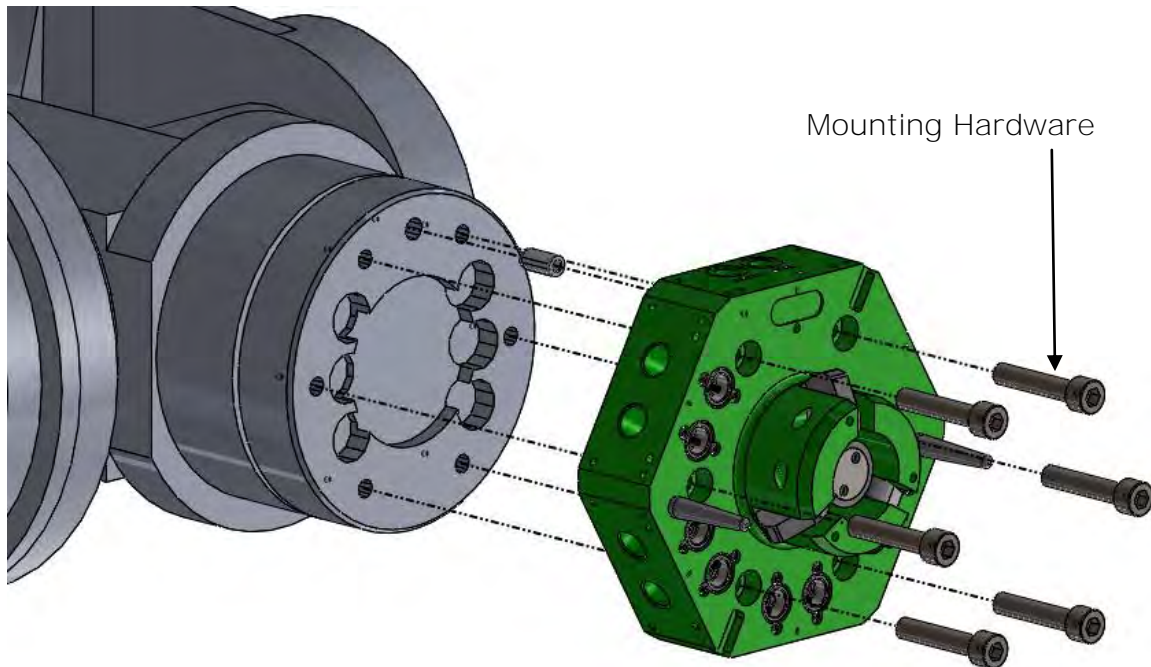

Figure 5.1-1. E125LP Robot Adaptor Installation w/ M10 Hardware
1. Locate the Robot Adaptor to the manipulator mounting flange utilizing the locating boss and one (1) M10 locating dowel (Figure 5.1-1).